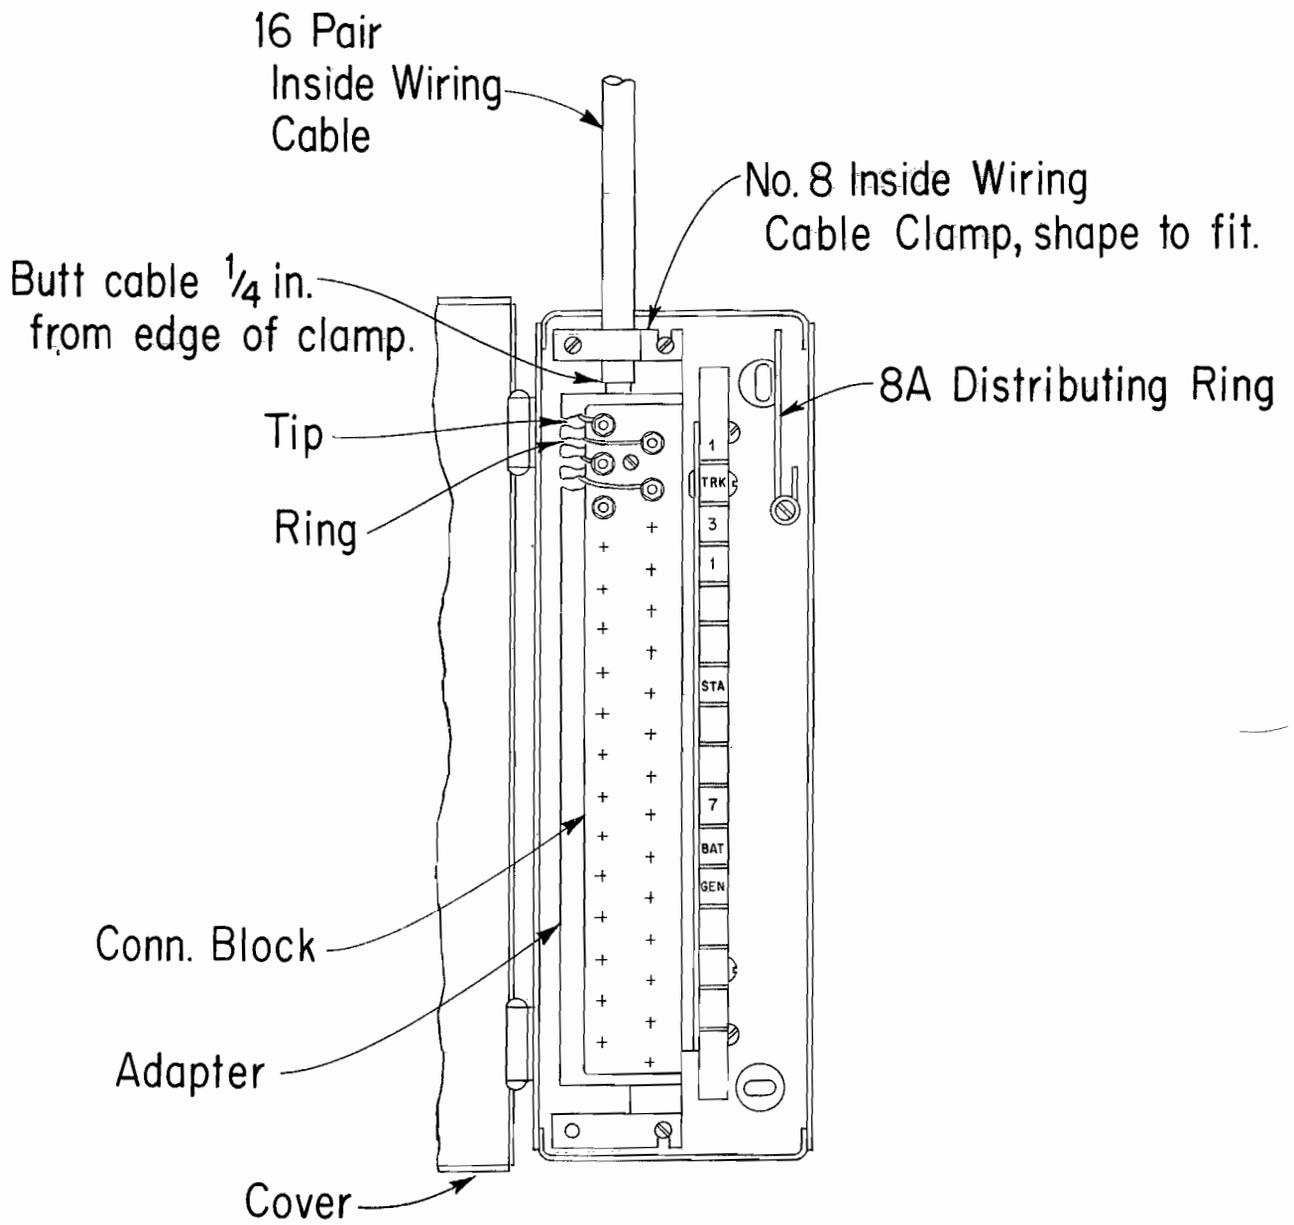

Fig. 1 -- Typical Arrangement for 507A PBX with Prefabricated Sheet Metal or Die-Cast Aluminum Chassis
4.04 Install cross-connecting terminal box and place connecting block and adapter in terminal. See Figs. 1, 2, and 3 for typical arrangement.
- 4.06** Strip the end of the cable to be placed in the cross-connecting terminal and butt as shown in Figs. 1, 2, and 3.
- 4.08** Letter and number fanning strips, using 3/16-inch rubber stamps, as shown in Figs. 1, 2, and 3. When connecting blocks are used which have the ring terminal positioned above and to the right of the tip terminal, transpose the designations for single leads.